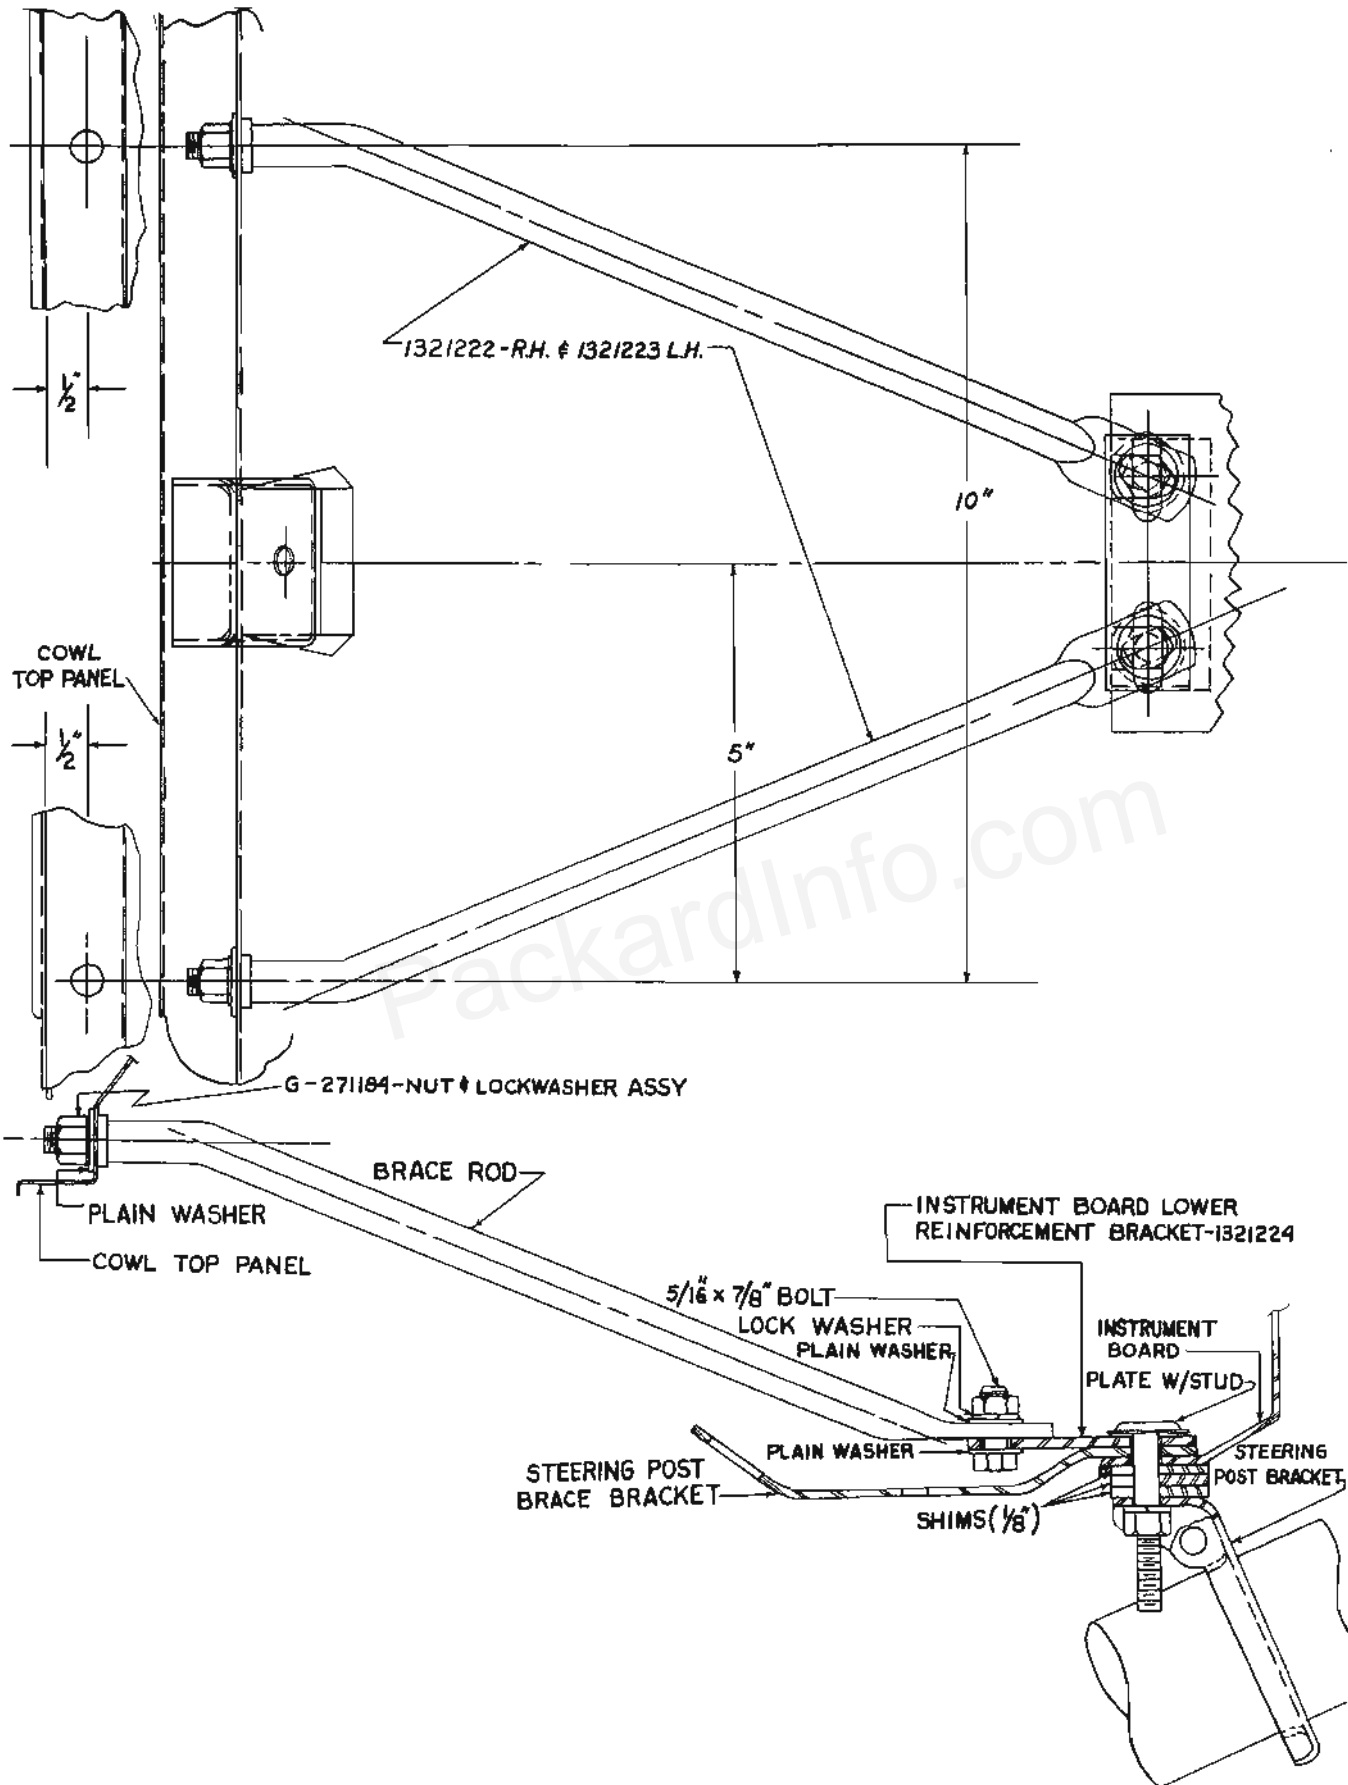

Fig. 5
- 5. Drill the two 11/32" holes for the steering post bracket-to-cowl brace rods in the cowl top panel at the locations shown in Fig. 5.